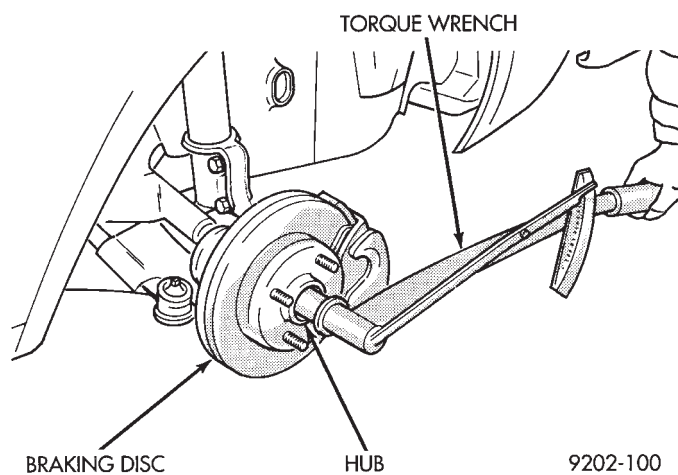

Fig. 17 Tighten Hub Nut
(11) With the vehicles brakes applied to keep front braking disc and hub from turning. Tighten the hub nut to a torque of 244 N•m (180 ft. lbs.) (Fig. 17).